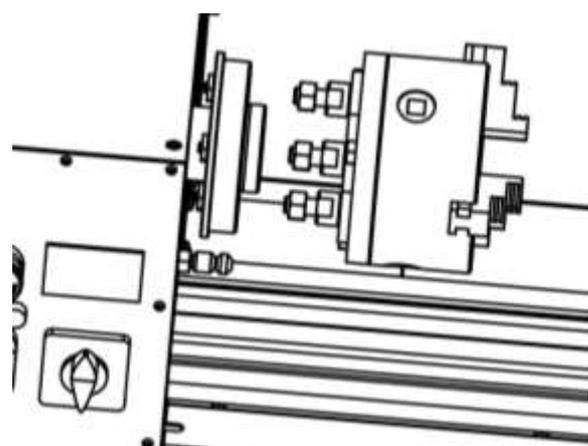

Figure 9 :Removing chuck from spindle nose.
7. Remove the chuck/faceplate from the spindle nose by pulling it out (**Figure 9**).